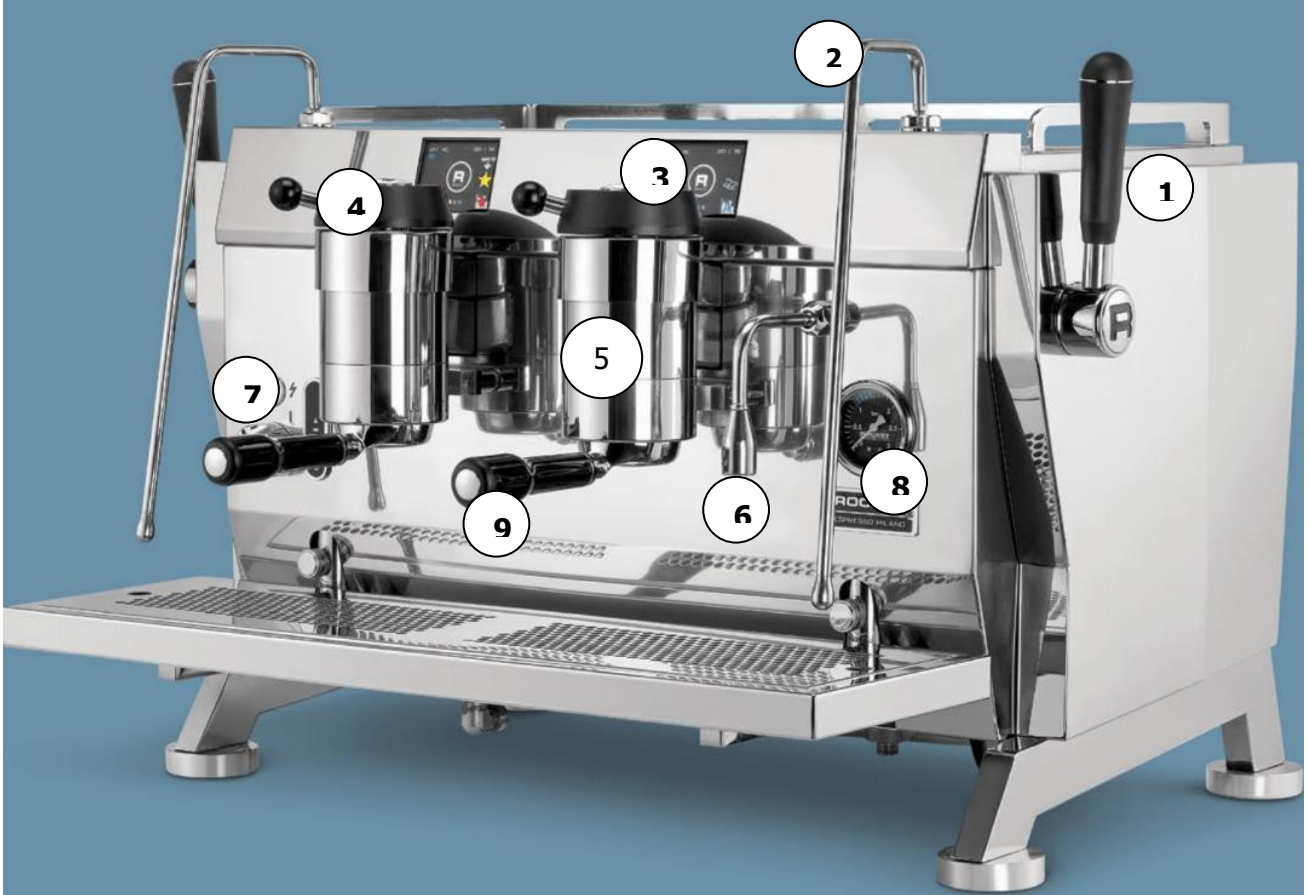

Fig. 1
Turn the on/off switch (Fig. 1 – pos. 7) from position 0 to position 1.
Wait until the boiler pressure gauge (fig. 1-pos.8) reads the working pressure (app. 0.9 bar) and group display (fig. 1 – pos. 3) reads app. 103°C.
Open the steam handle (Fig. 1 - pos. 1) for some seconds and then close it. This operation avoids milk resuction into the boiler. Wait until the working pressure has been reached again .
- Wipe the steam wand (Fig. 1 - 2) immediately after using with a non abrasive clean damp towel without touching it directly with any part of the body to avoid injury or damage due to the hot surface of steam wand end nozzle.
- Burp your steam wand (Fig. 1 -2) immediately after using opening and closing immediately after the steam valve (Fig. 1 -3).